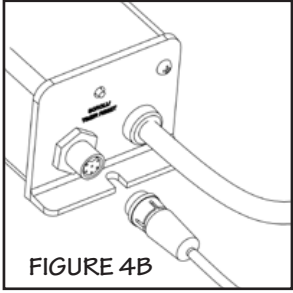

FIGURE 4B
3. Ensure sensor lens is rinsed free of cleaning solution. Carefully reassemble the sensor assembly with o-ring (Figure 4E) into the sensor boss. Screw the sensor into the boss and tighten to achieve a water-tight seal. DO NOT OVERTIGHTEN. Attach the sensor cable to the Controller and return to service (Figure 4B).